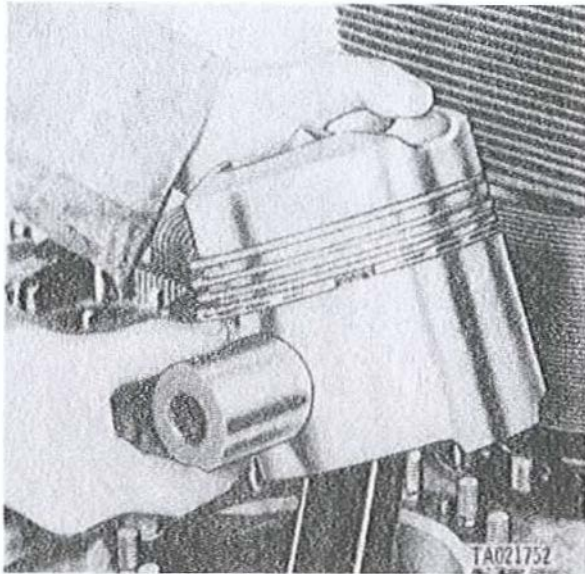

Figure 3-105. Removing piston pin and piston
g. Remove piston pin retaining rings and piston pin (fig. 3-105) from piston and remove piston from connecting rod. Reinstall piston pin in piston after it is removed from the connecting rod.